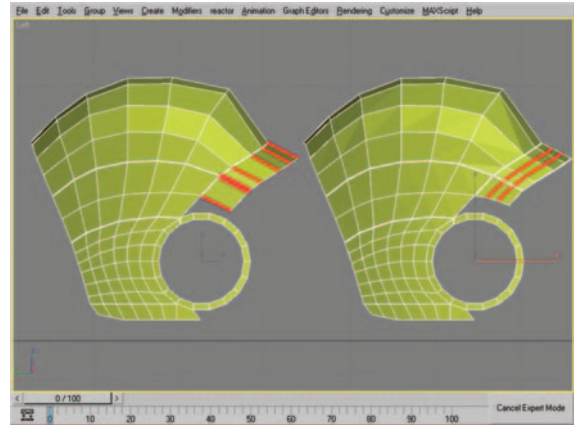

Figure 8.32 Edge selection and resulting mesh after using Connect settings.
34. At the Edge subobject level, select the edges shown in Figure 8.32 (left) and use the Connect settings dialog box to create two new rows of edges (Figure 8.32, right).